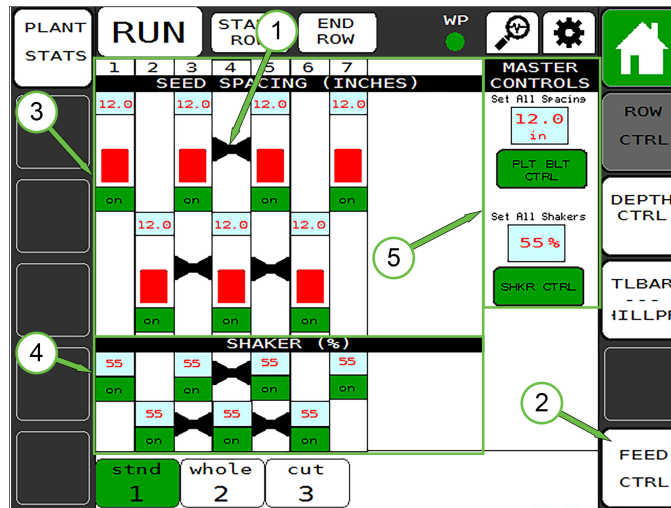

Figure 19
The Row Control screen displays controls used for adjusting seed spacing and shaker speed. Grouped row sections, connected by (1) black connectors, indicate row units controlled by a single setpoint and/or physically connected to the same drive. The Row Control screen for bed belt planters also has a (2) *FEED CTRL* function key to access the Feed Control function screen. (see Figure 19)